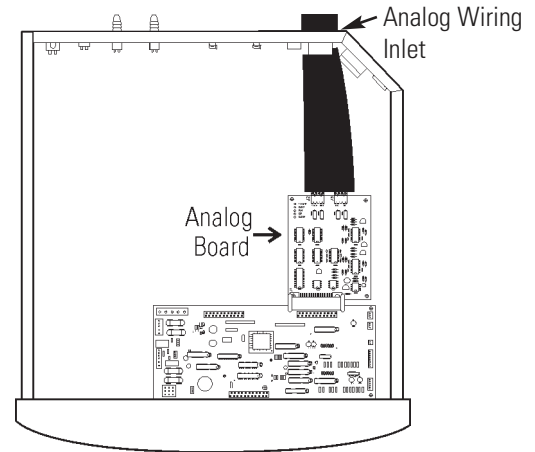

Figure 6-5. Analog Wiring Inlet
4. Each system monitored (Temp, CO₂, O₂, RH) requires two conductors. Feed the wire through the analog wiring inlet on the back of the drawer. See Figure 6-5.